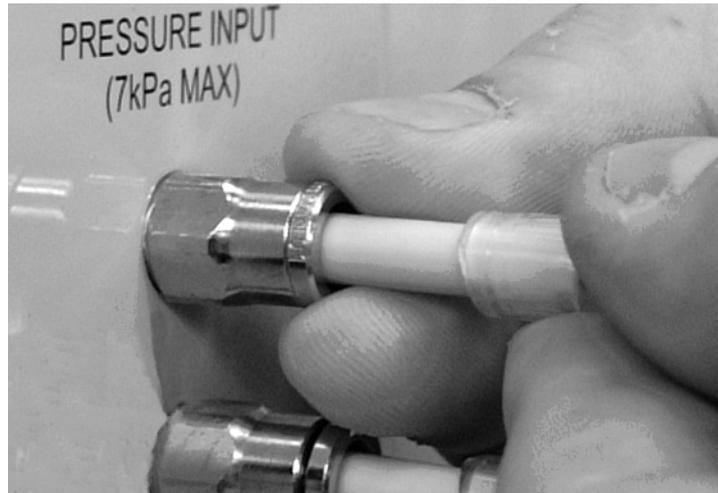

Figure 6 Push and Hold the Pressure Socket to Remove the Pipe Connection
5. To remove the pipe connection, push and hold the collar on the pressure socket, pull the pipe and adaptor from the socket (see Figure 6).